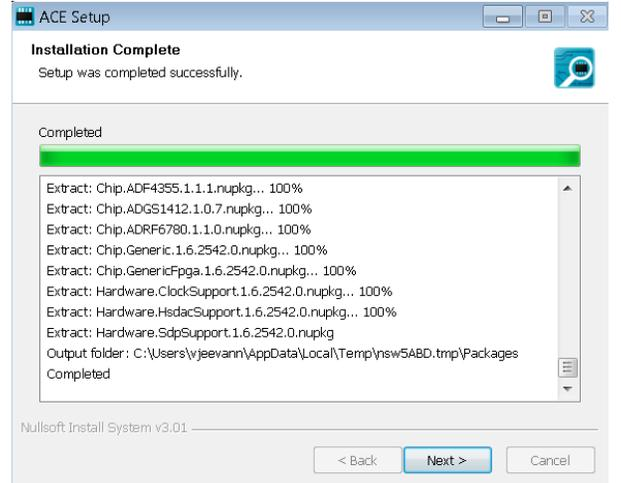

Figure 14. Installation Complete
- When the installation completes, click **Next >** (see Figure 14), and then click **Finish**.